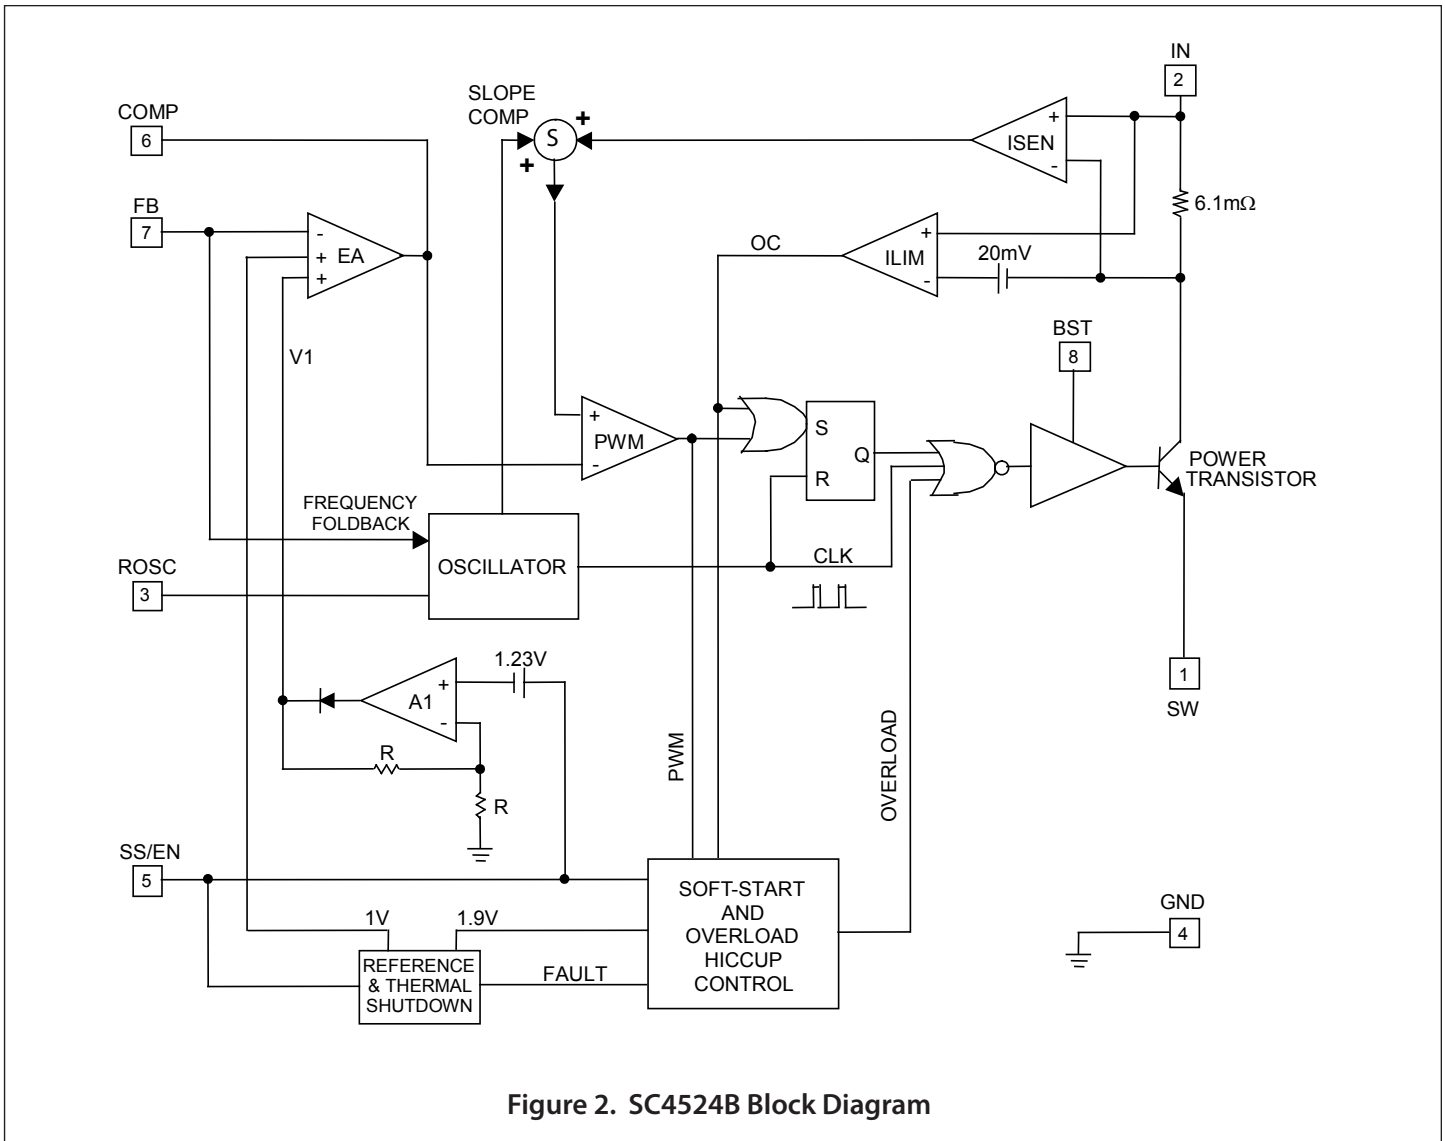

Figure 2. SC4524B Block Diagram
As shown in Figure 2, the switch collector current is sensed with an integrated 6.1mΩ sense resistor. The sensed current is summed with a slope-compensating ramp before it is compared with the transconductance error amplifier (EA) output. The PWM comparator trip point determines the switch turn-on pulse width. The current-limit comparator ILIM turns off the power switch when the sensed signal exceeds the 20mV current-limit threshold.
The error amplifier EA in Figure 2 has two non-inverting inputs. The non-inverting input with the lower voltage predominates. One of the non-inverting inputs is biased to a precision 1V reference and the other non-inverting input is tied to the output of the amplifier A_1 . Amplifier A_1 produces an output $V_1 = 2(V_{SS/EN} - 1.23V)$. V_1 is zero and COMP is forced low when $V_{SS/EN}$ is below 1.23V. During start up, the effective non-inverting input of EA stays at zero until the soft-start capacitor is charged above 1.23V. Once $V_{SS/EN}$ exceeds 1.23V, COMP is released. The regulator starts to switch when V_{COMP} rises above 0.4V. If the soft-start interval is made sufficiently long, then the FB voltage (hence the output voltage) will track V_1 during start up. $V_{SS/EN}$ must be at least 1.83V for the output to achieve regulation. Proper soft-start prevents output overshoot. Current drawn from the input supply is also well controlled.
As the load draws more current from the regulator, the current-limit comparator ILIM (Figure 2) will eventually limit the switch current on a cycle-by-cycle basis. The over-current signal OC goes high, setting the latch B₃. The soft-start capacitor is discharged with (I_D - I_C) (Figure 3). If the inductor current falls below the current limit and the PWM comparator instead turns off the switch, then latch B₃ will be reset and I_C will recharge the soft-start capacitor. If over-current condition persists or OC becomes asserted more often than PWM over a period of time, then the soft-start capacitor will be discharged below 1.9V. At this juncture, comparator B₄ sets the overload latch B₂. The soft-start capacitor will be continuously discharged with (I_D - I_C). The COMP pin is immediately pulled to ground. The switching regulator is shut off until the soft-start capacitor is discharged below 1.0V. At this moment, the overload latch is reset. The soft-start capacitor is recharged and the converter again undergoes soft-start. The regulator will go through soft-start, overload shutdown and restart until it is no longer overloaded.
The PWM latch in Figure 2 is reset every cycle by the clock. The clock also turns off the power transistor to refresh the bootstrap capacitor. This minimum off time limits the attainable duty cycle of the regulator at a given switching frequency. The measured minimum off time is 100ns typically. If the required duty cycle is higher than the attainable maximum, then the output voltage will not be able to reach its set value in continuous-conduction mode.